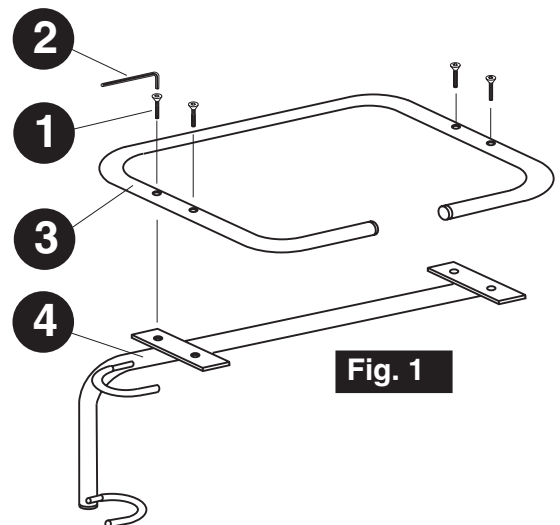

Fig. 1
1. Removing protective packaging from all items. Locate the bag containing the flat head screws(1) and allen wrench(2).
2. Secure the tray frame (3) to the support arm (4) using four of the flat head screws(1) and the allen wrench (2) to tighten the screws as shown in figure 1.